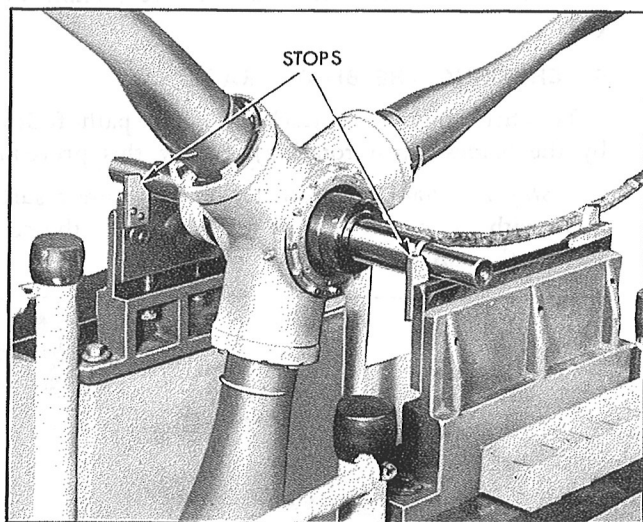

Figure 218—Align the Propeller with the Ways
*Step 13.*—Set the arbor on the knife edges close to the stops and rotate the arbor until it is squarely against the stops, as shown in Figure 218.